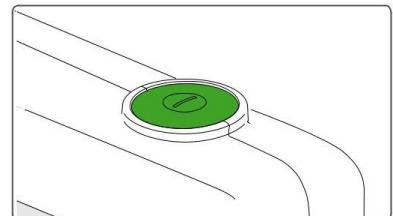

Figure 24. ON/OFF button
1. Press ON/OFF to turn the device on, *see Figure 24*.